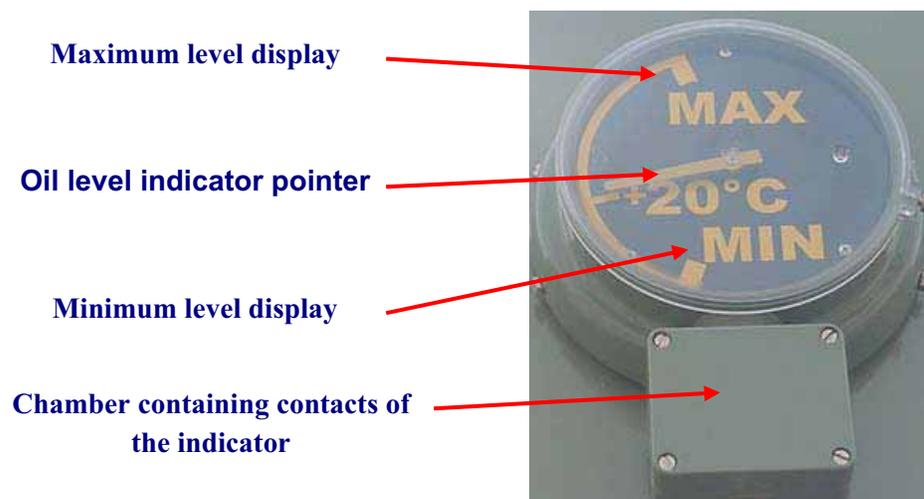

Figure 7 : Different parts of Oil Level Indicator
- With contacts (see Figure 7)